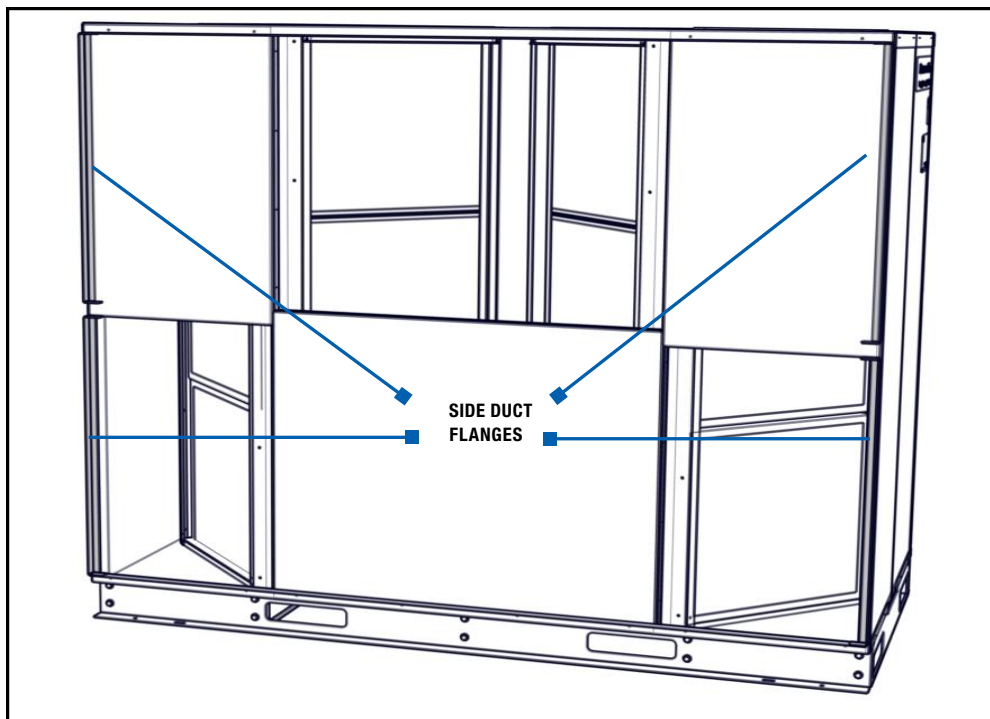

FIGURE 2.2.20 INSTALL SIDE DUCT FLANGES
Install (8) Side Duct Flanges next, (4) on each side, see Figure 2.2.20.